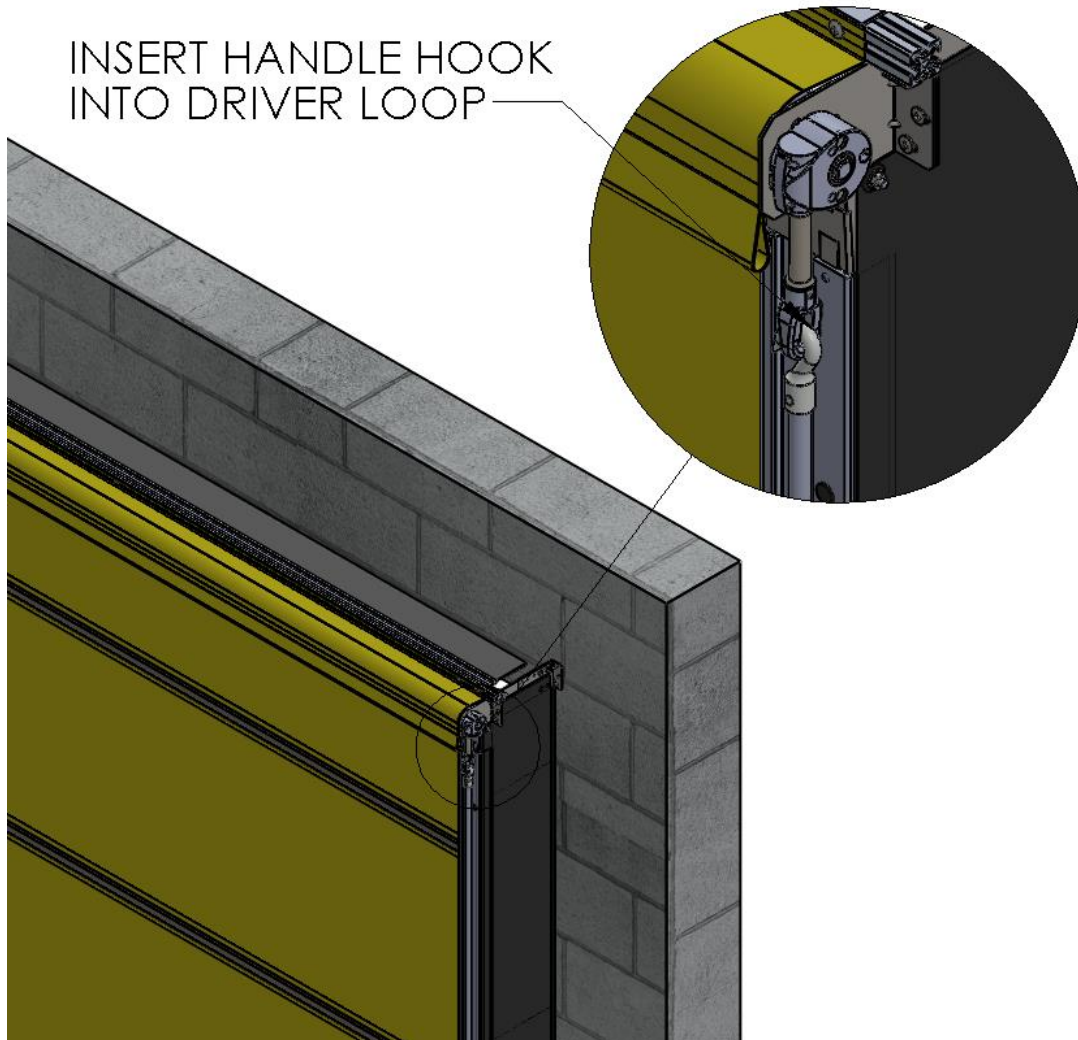

Figure 12 INSTALL CRANK HANDLE
3. Insert the handle's hook into the loop of the Driver Assembly. (Figure 12 INSTALL CRANK HANDLE)